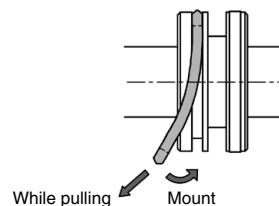

Fig. 5 Installation of piston seal
③7 Rod seal A: Mount the seal in the correct direction.
③9 Piston seal: Mount the seal while stretching it as Fig. 5.